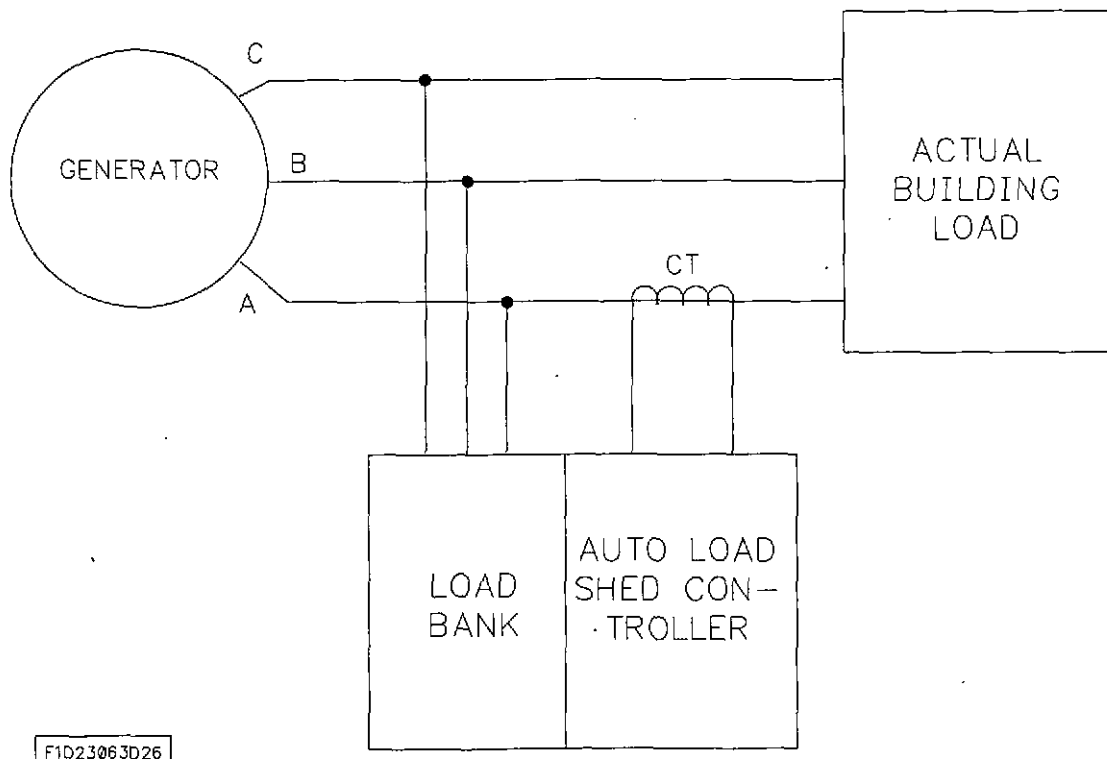

Figure 3-1
4. When an automatic Controller is included with the Load Bank, installation of the current transformer on the main power bus as shown in Figure 3-1 is required. Wire the current transformer into the control circuitry as shown on the provided schematic.
In the system example detailed above, a current transformer having a ratio of 500:5 will be used to monitor the building load. (Refer to Figure 3-1.) As the actual generator output reached 300 kW, the controller "shed" a load step. The current flowing to the building load at this point will be called the current trip point. This "trip point" value can be determined using the following formula: